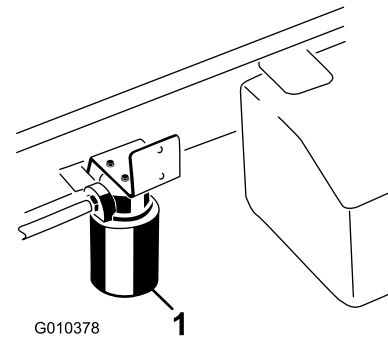

Figure 65
5. Place a drain pan under the filter and remove the filter (Figure 65).